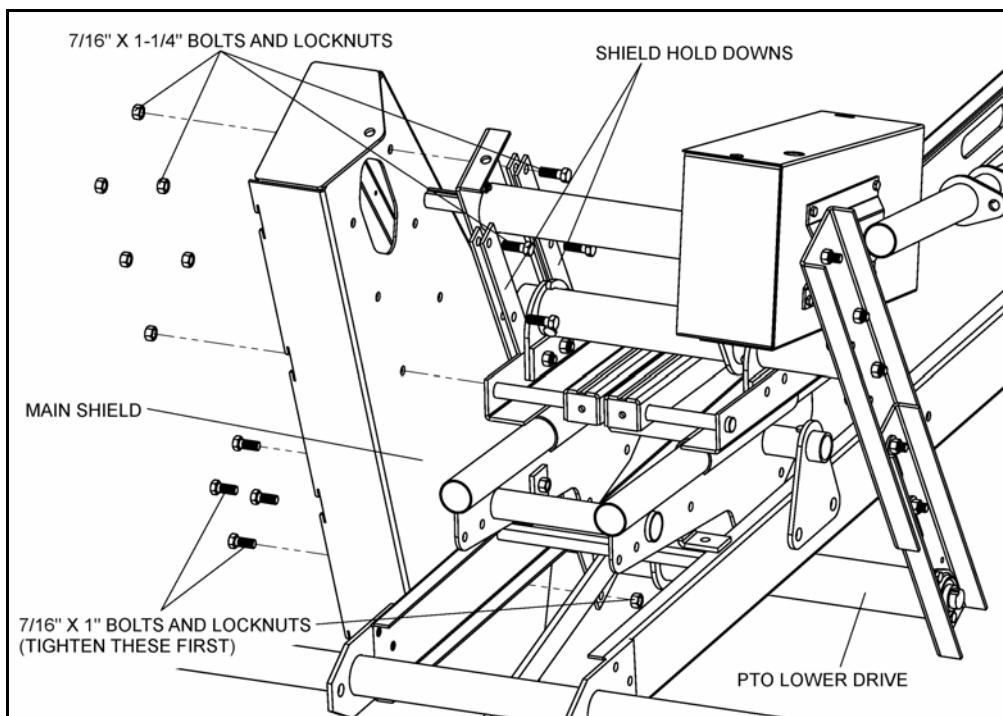

**Figure 3.44**
6. Attach push bar to top of PTO vertical channel with one 7/16" x 1-1/2" bolt and locknut (see Figure 3.44).
7. Bolt drive shield to push bar with four 1/4" x 1" bolts and locknuts (see Figure 3.44).